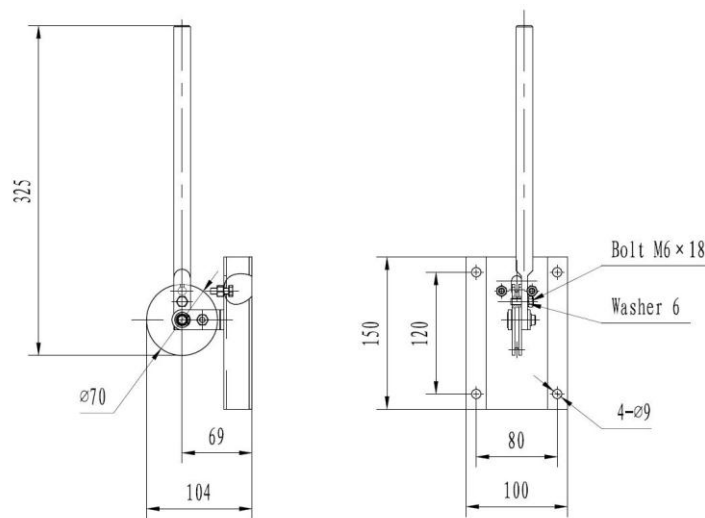

Figure 1.6
- 1) The loose brake soft pipe pass through the through hole of the mounting plate , and are arranged on the wheel which is fixed on the mounting plate. The relative position of the installation of wheels and handle as figure 1.6, the wheel is ensured to be in the inner side of the handle , so that the rope groove on the wheel can be matched with the through hole of the mounting plate , after the loose brake soft pipe is installed, use the M6×18 bolt and washer to lock the wheel with the handle ;